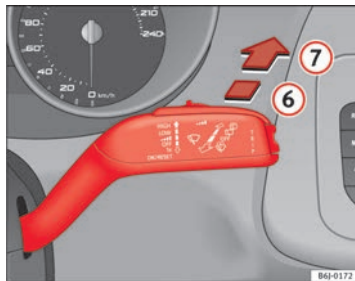

Fig. 65 Windscreen wiper and windscreen wash lever: rear window wiper
- Press the lever forwards to position ⑥ ⇒ fig. 65. The wiper will wipe the window approximately every 6 seconds.
- Press the lever fully forwards to position ⑦ ⇒ fig. 65. The rear wiper and washer operate at the same time. The windscreen wash system will function as long as you hold the lever in this position.